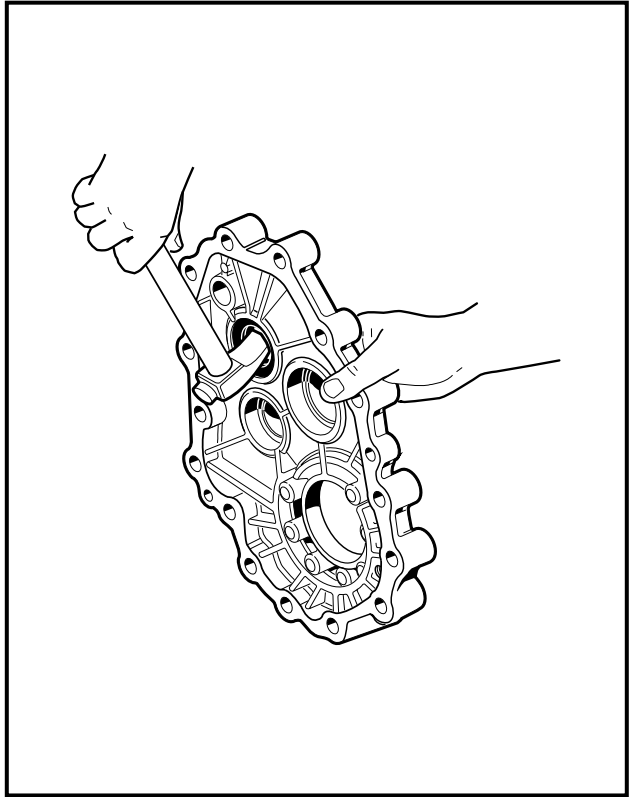

Figure 19-10 Input Shaft Oil Seal
13. Use a seal puller (CCI P/N 1012809) or rolling head prybar to remove the input shaft oil seal from the case (**Figure 19-10, Page 19-8**).